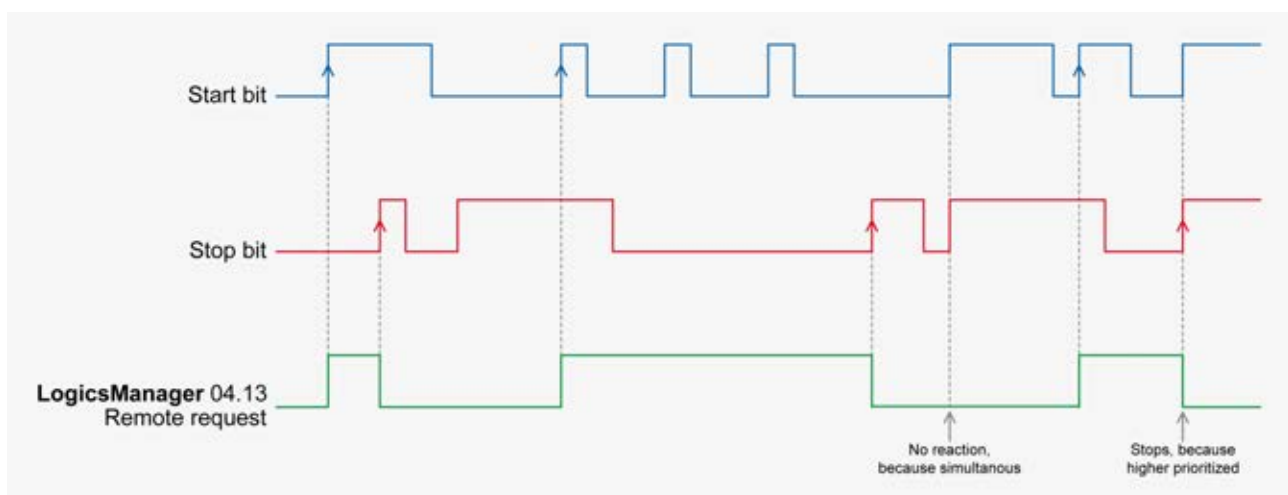

Fig. 162: Command variable
- The command variable "04.13 Remote request" changes to "0" (low) if the stop bit (ID 503, bit 1) changes from "0" to "1" (Fig. 162).